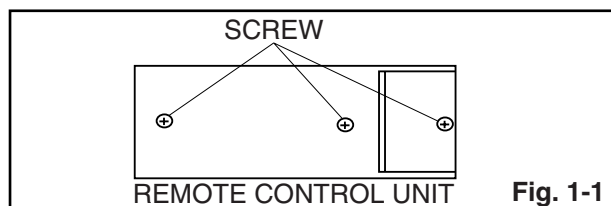

Fig. 1-1
1. Prepare normal remote control unit. (Part No. N0121UD or N0134UD) Remove 3 Screws from the back lid. (Fig. 1-1)